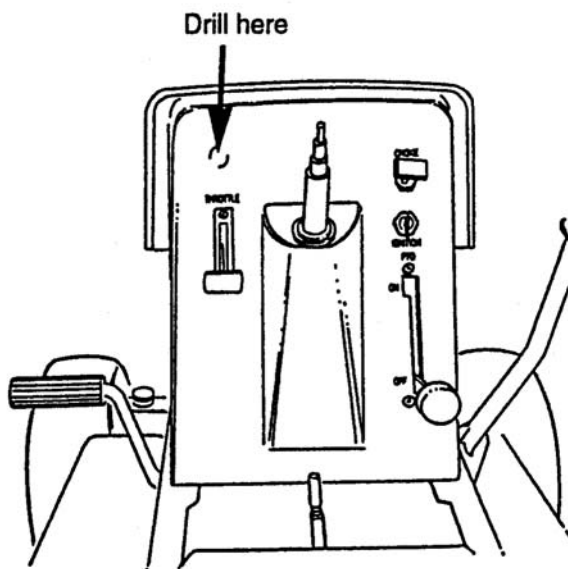

Figure 4-53.
7. Drill a 1/2" hole through the left hand side of dash panel above the throttle box. See figure 4-53.